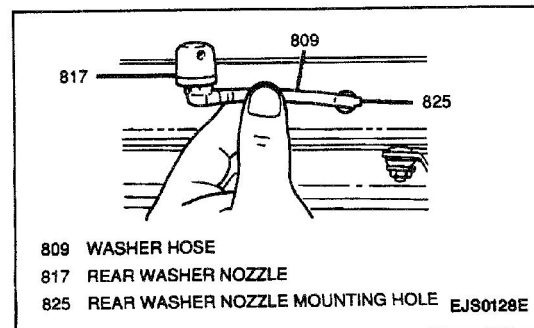

Figure 14—Removing Rear Washer Nozzle
1. Gently pull rear washer nozzle from rear washer nozzle mounting hole above rear door. (Figure 14).